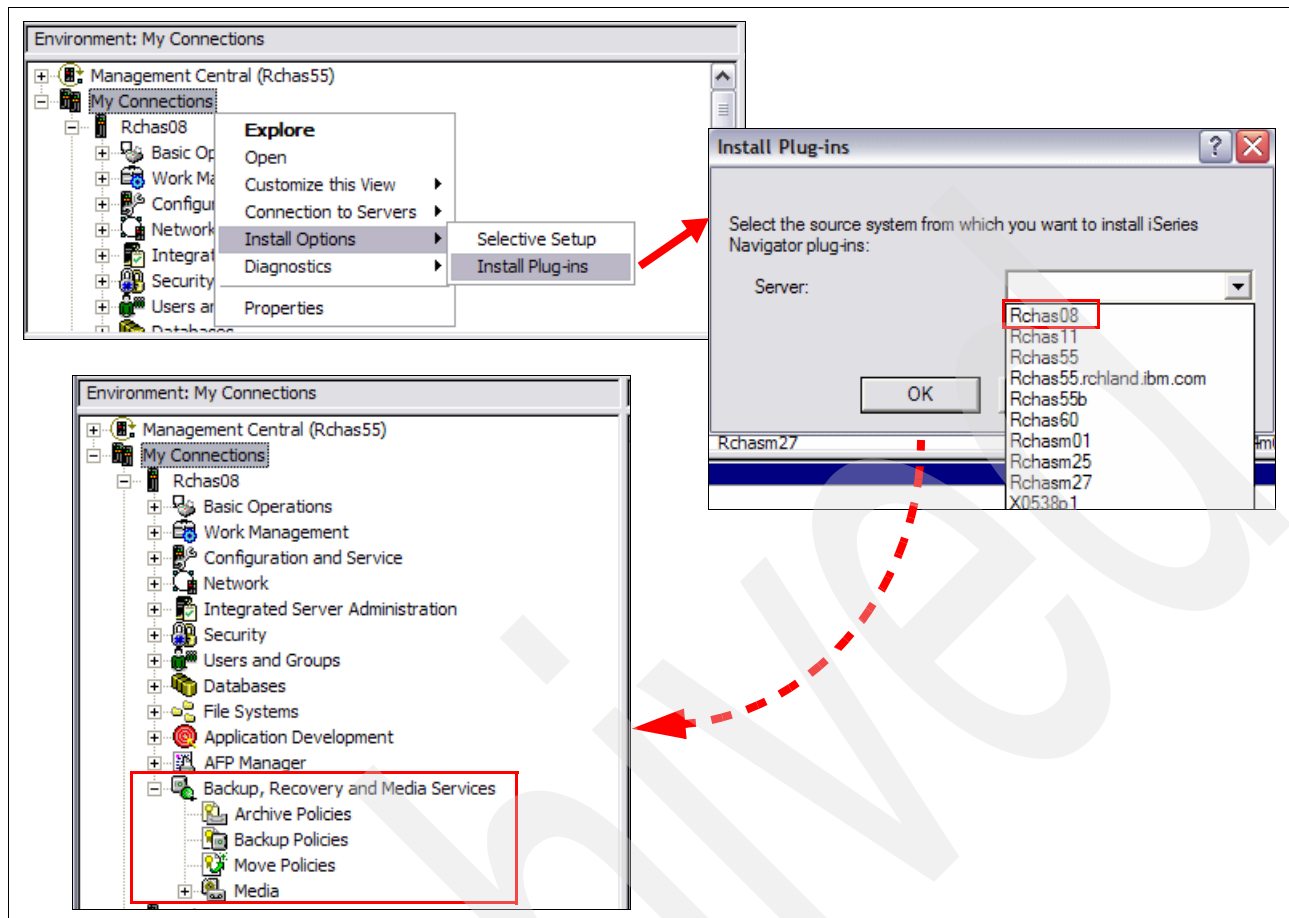

Figure 6-1 Installing an iSeries Navigator plug-in
1. After iSeries Navigator has been installed on your PC workstation and you have a connection to at least one i5/OS partition that has BRMS installed, right-click **My Connections** → **Install Options** → **Install Plug-ins**, as shown in Figure 6-1.
You can see the BRMS plug-in folder for Rchas08 in Figure 6-1. The dashed red arrow represents a set of windows that we do not show.